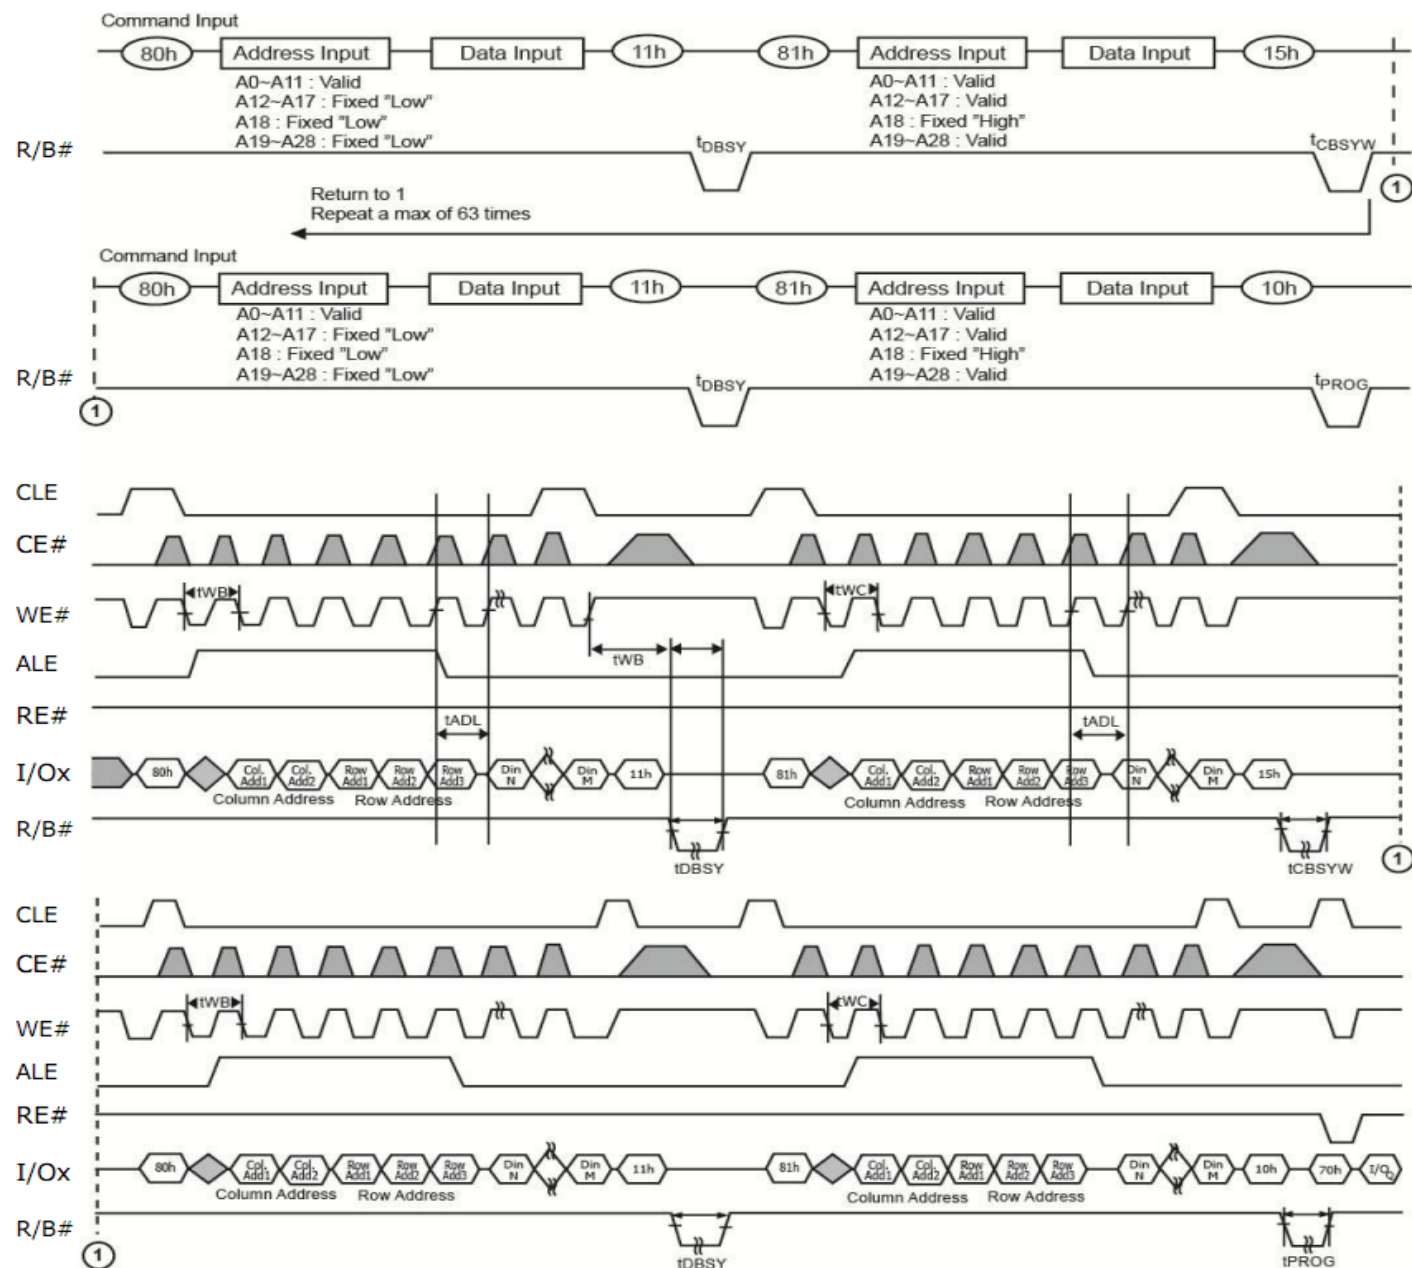

**Figure 30 : Multi-plane copy-back program (ONFI 1.0 protocol)**
Same restrictions on address of blocks on plane 0(A) and 1(B) and allowed commands as Figure 30 apply